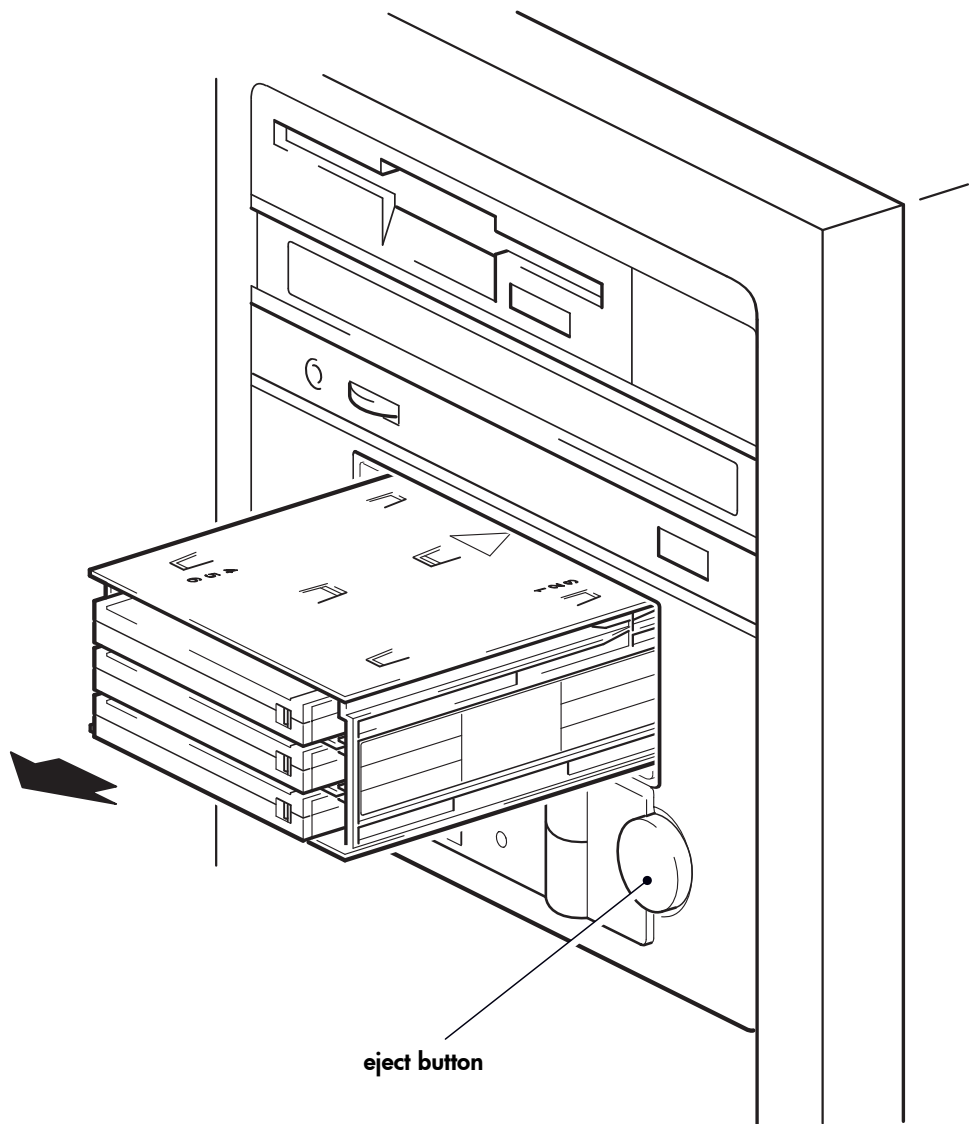

Figure 12: unloading the autoloader
- 1 Press the Eject button on the front panel. (See figure 12.)